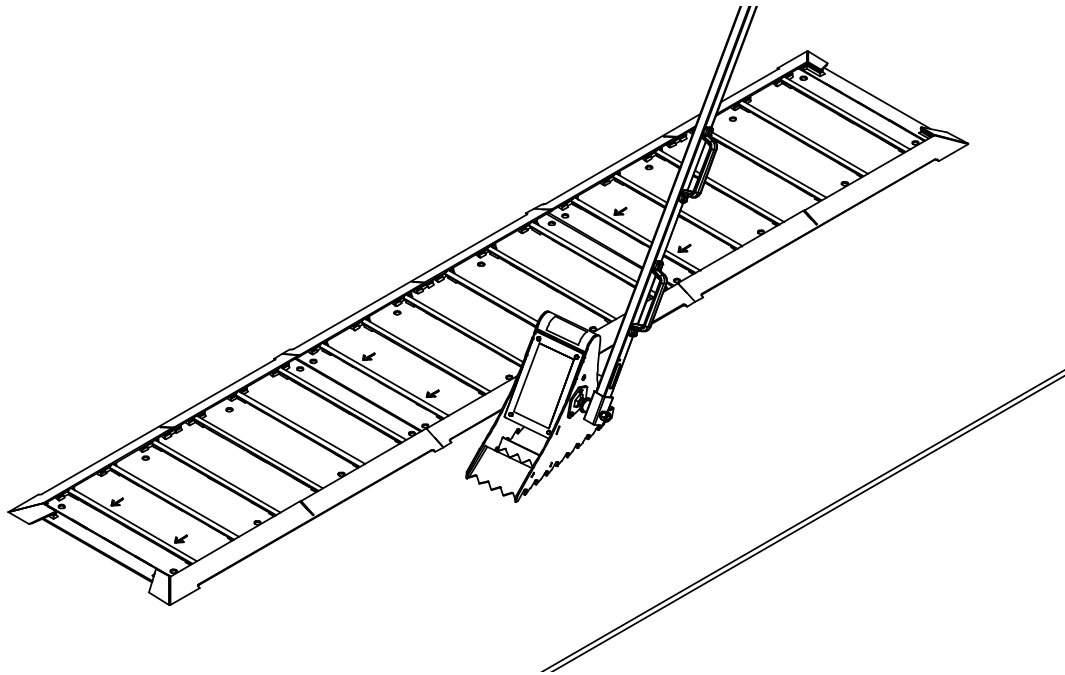

Figure 51
Whenever maintenance is to be performed under the dock leveler platform, support the platform with maintenance prop (C). Position the maintenance prop behind front header plate (D) while staying clear of the lip. The lip will fold down after the platform has rested on the maintenance prop. Lock the maintenance prop in the service (upright) position using an OSHA approved lockout device* (A) and tag out device* (B). See Figure 51 and Figure 52.